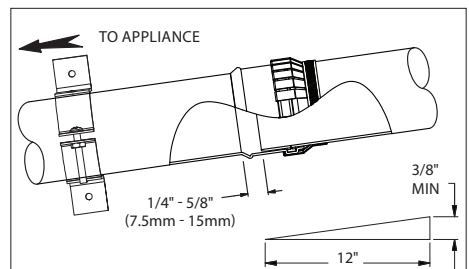

Figure 7
Refer to the appliance manufacturer's installation instructions for requirements of condensate drainage. Ensure proper system slope for drainage. (Fig.7 and 20)
3. **The slope of the vent pipe must be at least 1.8° (3/8" rise per ft run, 31mm per meter) back to the appliance.** Ensure there are no dips in the system where condensate can collect. (Fig.7)
PP Pipe sections must be disengaged 1/4"-5/8" per joint (to allow for expansion) and sloped 1.8°(3/8" per ft) back to the appliance per Fig.7 for proper condensate flow.